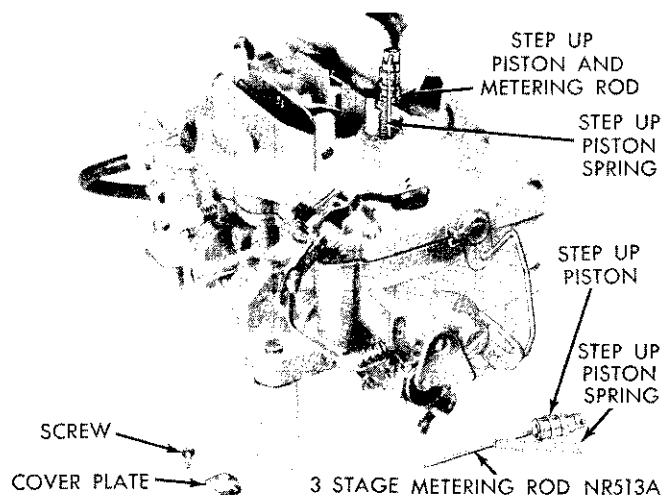

Fig. 2—Removing or Installing Step-Up Pistons and Rods
(1) Place carburetor assembly on repair stand Tool C-3400 or T-109-287S elevating legs. These tools are used to protect throttle valves from damage and to provide a suitable base for working.
(2) Remove hairpin clip that attaches fast idle connector rod to fast idle cam. Disengage rod from cam then swing rod at an arc until it can be disengaged from choke operating lever.
(3) Remove hairpin clip that holds throttle connector rod in center hole of accelerator pump arm. Disengage rod from arm and throttle lever, then remove from carburetor.
(4) Remove screws attaching step-up piston and rod cover plates. Hold cover down with a finger to prevent piston and rods from flying out. Lift off plates and slide step-up pistons and rods out of air horn, (Fig. 2). Remove step-up piston springs.
(5) Remove vacuum hose between carburetor throttle body and vacuum diaphragm.